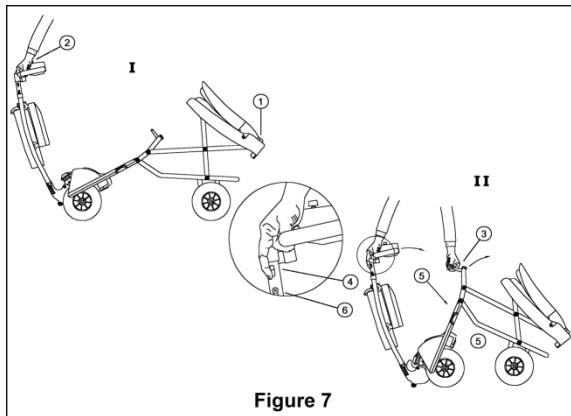

Figure 7
Step 1: Fold backrest of seat down (Fig. 7/1)
Step 2: Hold handgrip of front column (Fig. 7/2) in the “Operating” or “Entry/Exit” position and push forward away from seat to fold platform upwards.
Step 3: Grasp platform handle (Fig. 7/3) and pull column lock triggers (Fig. 7/4) to fold column towards the platform. Fold together until folded frame lock pin (Fig. 7/5) and column latch (Fig. 7/6) click into